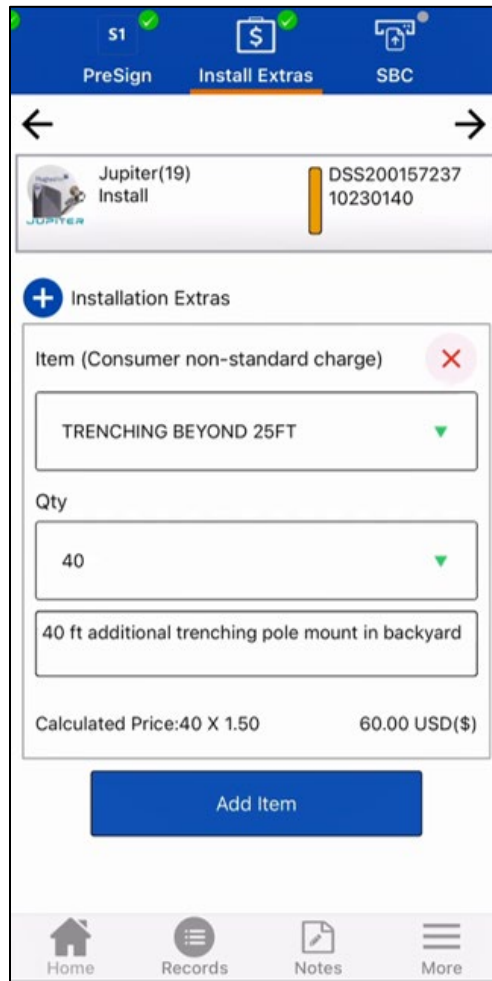

Figure 53: Installation Extras step – selections
2. Select the item and quantity from the corresponding drop-down menus (Figure 53).